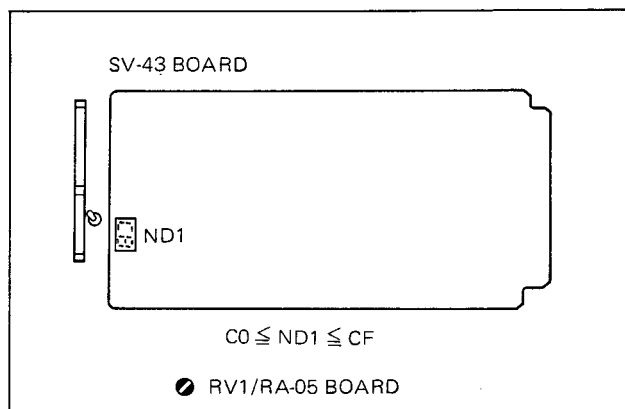

Fig. 3-22. Motor Torque Adjustment Value
- d. After motor stops, confirm that the number shown in Fig. 3-22 is indicated by the display element ND1 on the SV-43 board. If necessary, adjust RV1 on the RA-05 board.